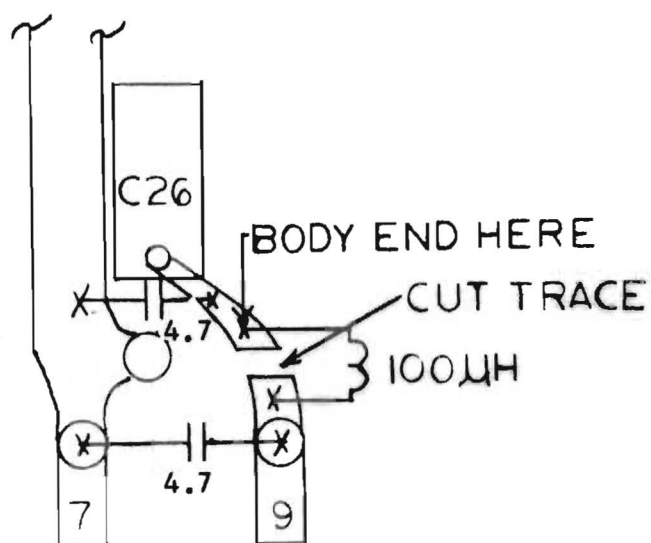

FIGURE 2
(See Figure 2)
- VIII. Install 100 μ h coil in two remaining holes (See Figure 2)